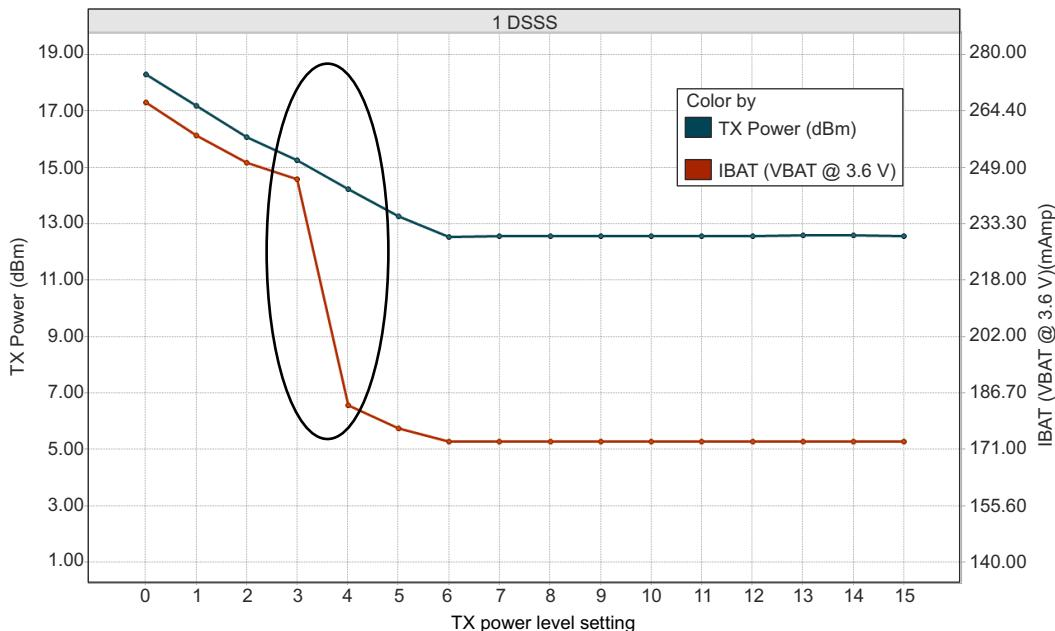
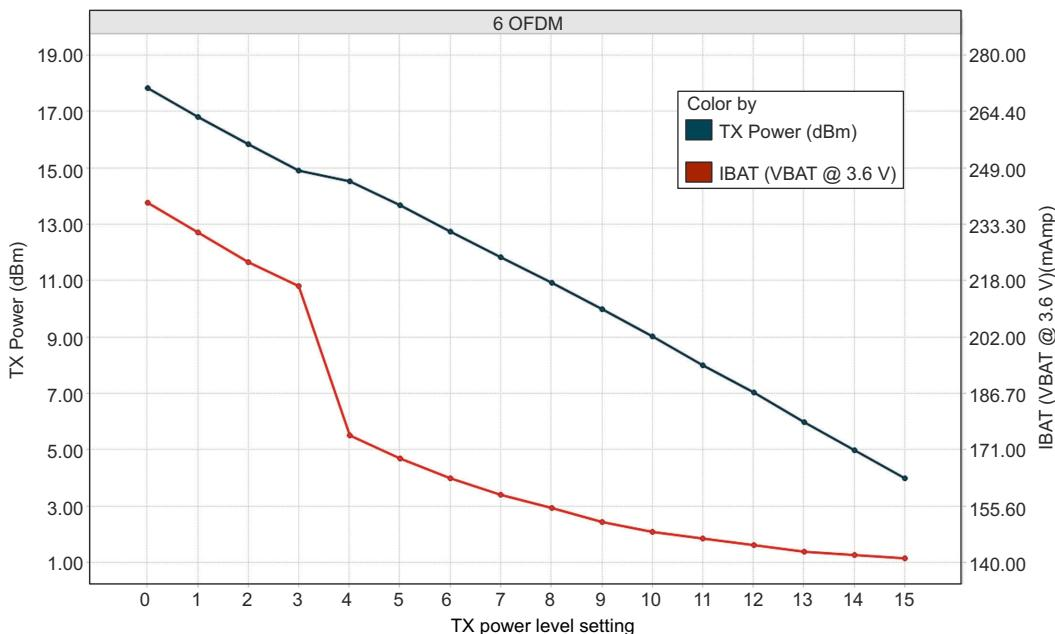
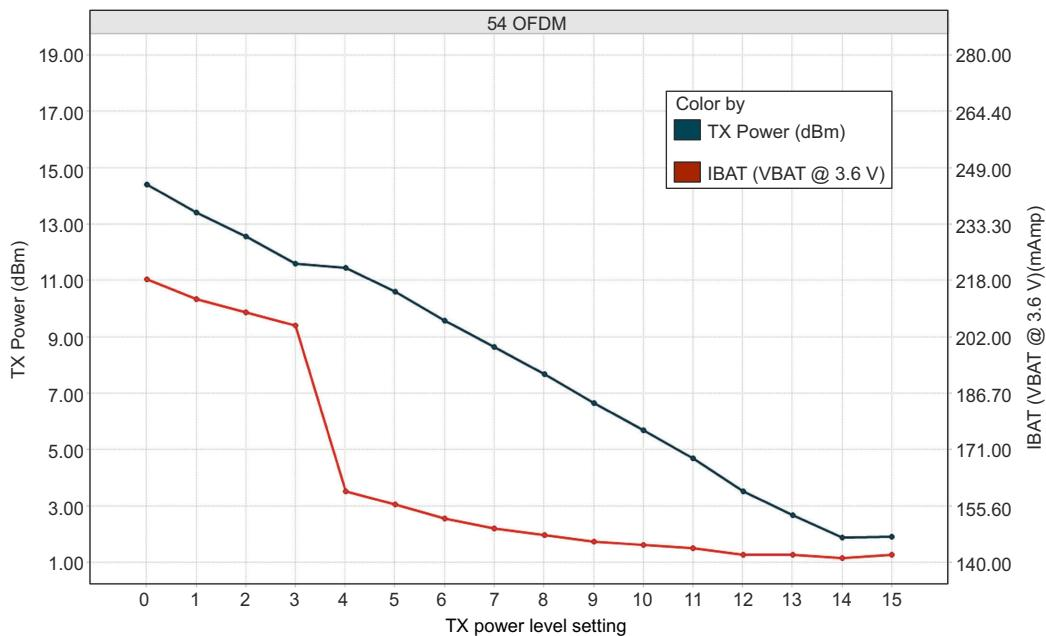

図 7-1. TX Power and IBAT vs TX Power Level Settings (1 DSSS)
図 7-2. TX Power and IBAT vs TX Power Level Settings (6 OFDM)
图 7-3. TX Power and IBAT vs TX Power Level Settings (54 OFDM)
(1) TX power level = 0 implies maximum power (see 図 7-1, 図 7-2, and 図 7-3). TX power level = 4 implies output power backed off approximately 4 dB.
(2) The CC3235x system is a constant power-source system. The active current numbers scale based on the V_{BAT} voltage supplied.
(3) Typical numbers assume a VSWR of 1.5:1.
(4) DTIM = 1
(5) LPDS current does not include the external serial flash. The LPDS number of reported is with retention of 256KB of MCU SRAM. The CC3235x device can be configured to retain 0KB, 64KB, 128KB, 192KB, or 256KB of SRAM in LPDS. Each 64-KB block of MCU retained SRAM increases LPDS current by 4 μA.
(6) The complete calibration can take up to 17 mJ of energy from the battery over a period of 24 ms. Calibration is performed sparingly, typically when coming out of HIBERNATE and only if temperature has changed by more than 20°C. The calibration event can be controlled by a configuration file in the serial flash.
図 7-1, 図 7-2, and 図 7-3 show TX power and IBAT versus TX power level settings for the CC3235S device at modulations of 1 DSSS, 6 OFDM, and 54 OFDM, respectively. For the CC3235SF device, the IBAT current has
In 図 7-1, the area enclosed in the circle represents a significant reduction in current during transition from TX power level 3 to level 4. In the case of lower range requirements (14-dBm output power), TI recommends using TX power level 4 to reduce the current.